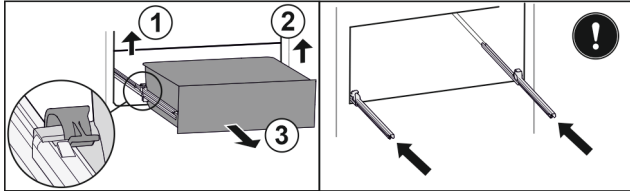

Fig. 151
- ▶ Lift left clamp and simultaneously pull drawer forwards on the left. Fig. 151 (1)
- ▶ Lift right clamp and simultaneously pull drawer forwards on the right. Fig. 151 (2)
- ▶ Remove drawer to the front. Fig. 151 (3)